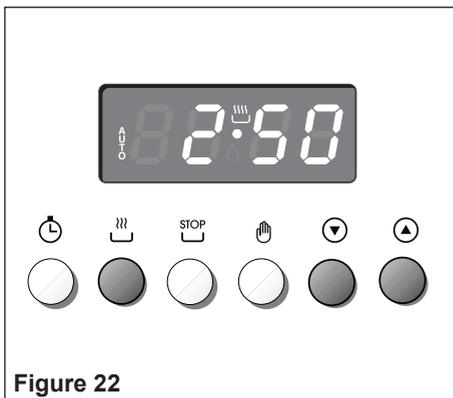

Figure 22
1. Set the length of the cooking period by pushing the  button and the  button to increase, or  to decrease if you have passed the desired time (fig. 22). The **AUTO** and the  symbol will illuminate.